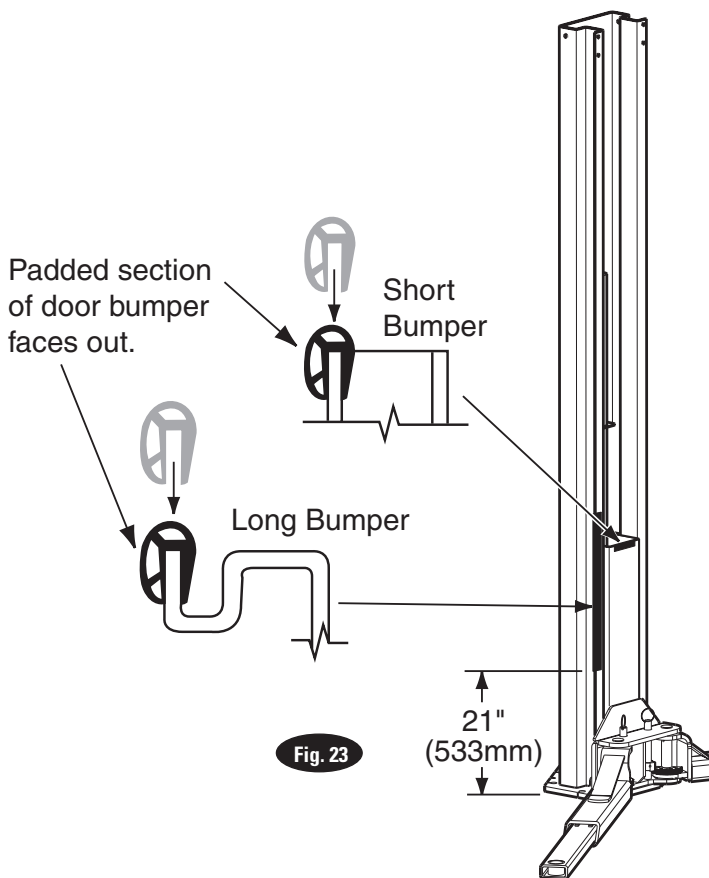

Fig. 23
- A) Press long bumper on column edge, Fig. 23.
- B) Press short bumper on top edge of carriage tube, Fig. 23.